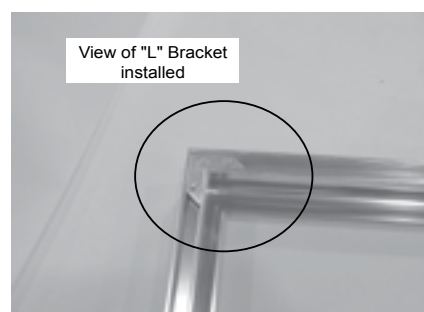

Figure 13B
4. To assemble the trim, attach the 2 side trim pieces to the top trim at each corner using the "L" bracket included in fasteners package. **See Figure 13B**